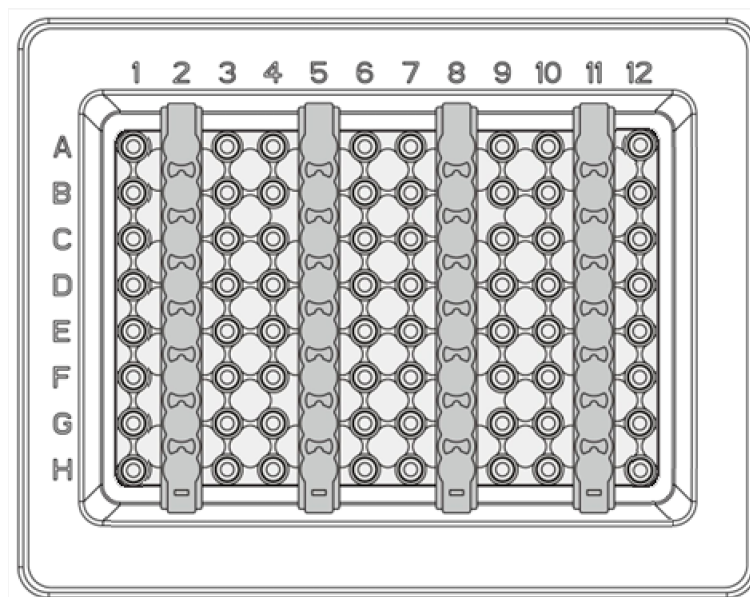

Figure F-3. Transport Locking Operation (1)
**1st Step:** press <  **Open/Close Sample Cabin** > function key on the instrument touch screen, the sample cabin drawer will be drawn out slowly. Please load empty PCR 96-well plate on the sample module or load empty PCR 8-stirp tube in column 2, 5, 8 and 11, as shown in figure F-3.